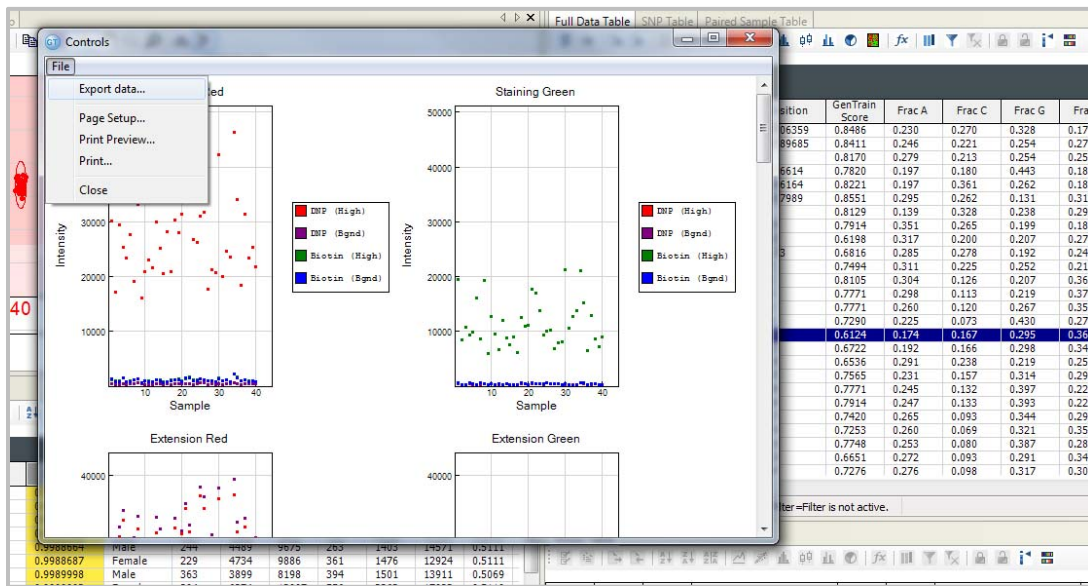

Figure 4: Exporting Controls Data
- Infinium controls data can be exported in table format by clicking File and Export data in the Controls Dashboard Window. (See Figure 4.)